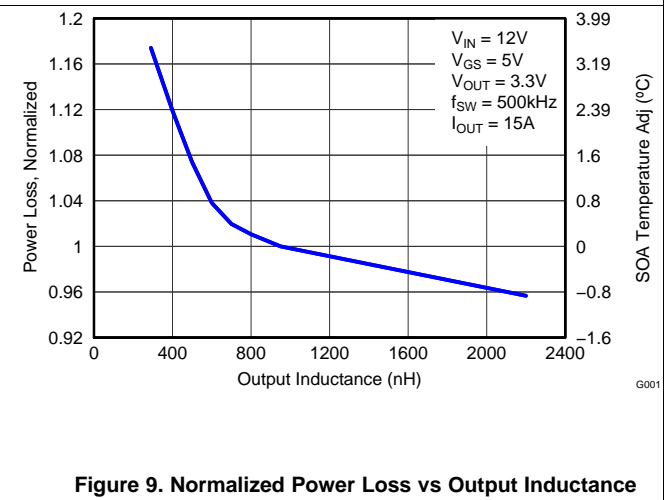

Figure 9. Normalized Power Loss vs Output Inductance
The typical power block system characteristic curves (Figure 1 through Figure 9) are based on measurements made on a PCB design with dimensions of 4 in (W) × 3.5 in (L) × 0.062 in (H) and 6 copper layers of 1-oz copper thickness. See Applications for detailed explanation. $T_A = 125^\circ\text{C}$, unless stated otherwise.
The typical power block system characteristic curves (Figure 1 through Figure 9) are based on measurements made on a PCB design with dimensions of 4 in (W) x 3.5 in (L) x 0.062 in (H) and 6 copper layers of 1-oz copper thickness. See Applications for detailed explanation. $T_A = 125^\circ\text{C}$, unless stated otherwise.
- Normalized power loss for output inductor \approx 1.03 (Figure 9)
- SOA adjustment for output inductor \approx 0.8°C (Figure 9)